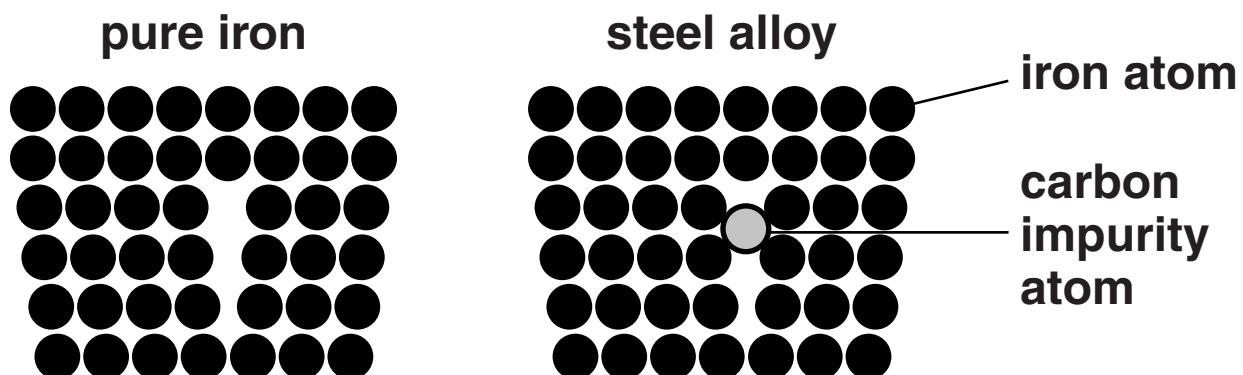

FIG. 9.1
- (ii) Drill bits can be made from steel alloy. Fig. 9.1 shows the microstructures of pure iron metal and a steel alloy.
State the meaning of the term ductile and describe how Fig. 9.1 can be used to help explain why steel is less ductile than iron.